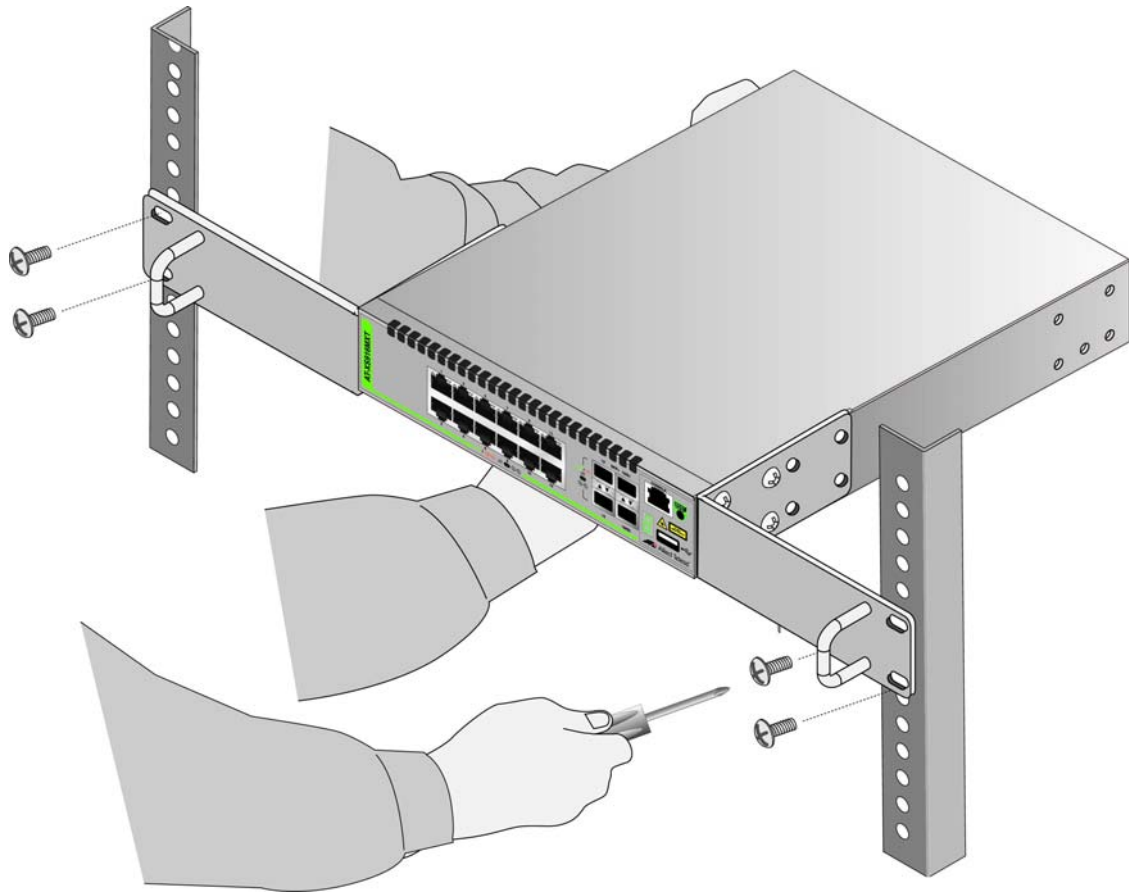

Figure 22. Installing the Switch in an Equipment Rack
4. Have another person hold the switch at the desired location in the equipment rack while you secure it using four standard equipment rack screws (not provided). Refer to Figure 22.